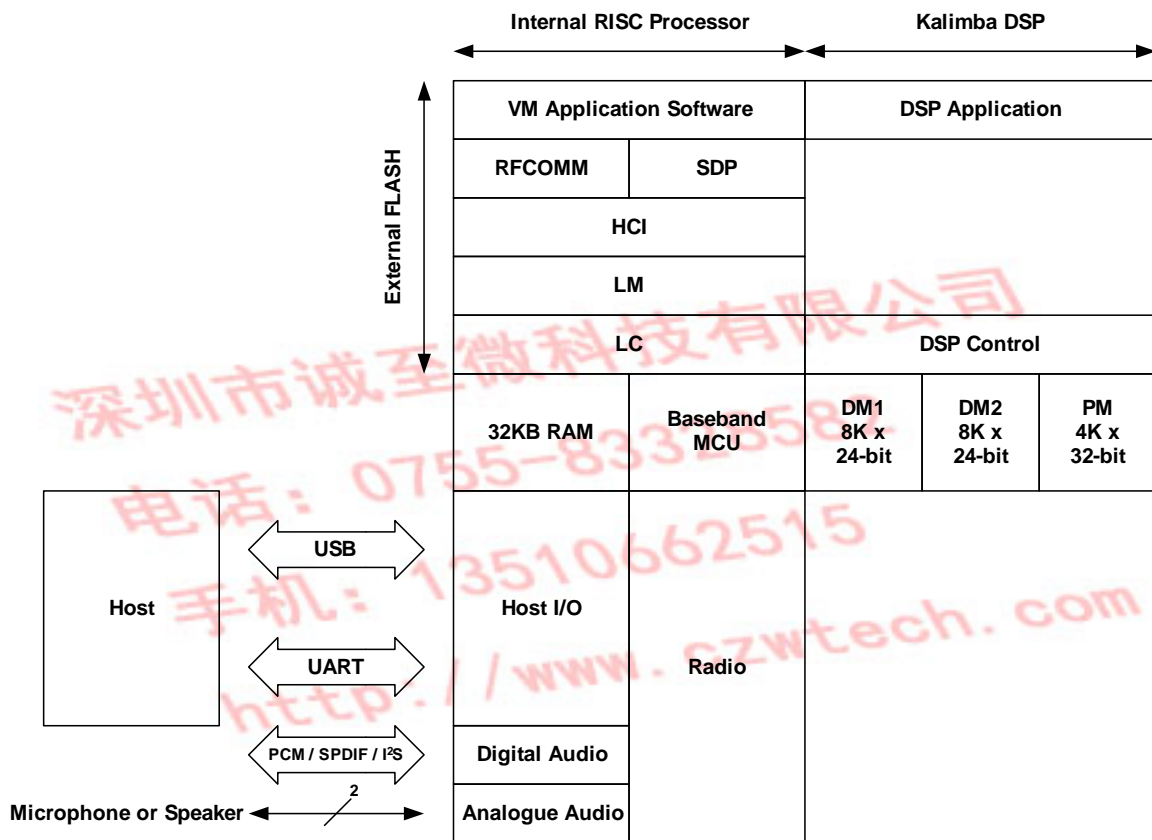

Figure 7.2: Kalimba DSP Stack
In Figure 7.2, this version of the stack firmware requires no host processor (but can use a host processor for debugging etc. as shown). The software layers for the application software runs on the internal RISC processor in a protected user software execution environment known as a Virtual Machine (VM) and the DSP application code runs from the DSP program memory RAM.